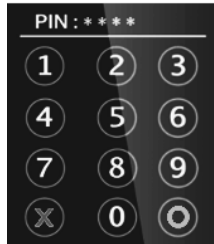

Figure 5
After inserting the chip card, press the numeric keys of virtual keypad (**Figure 5, as reference**) shown on the display to enter the password. Press Cancel (X) key to terminate any current function and press the Enter (O) key to confirm a value or an option.